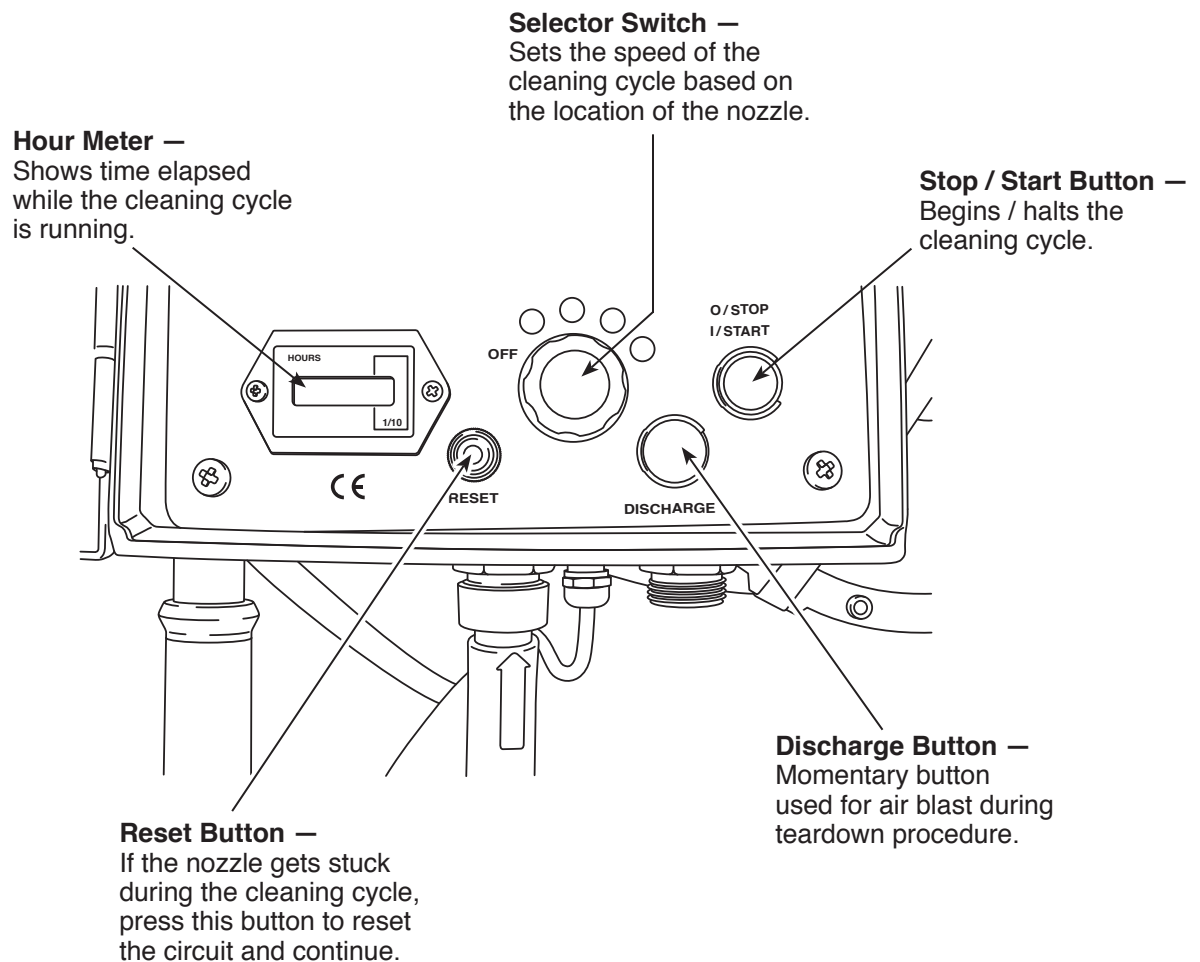

Figure 16
2. Refer to Figure 16 for explanations of panel button functions.